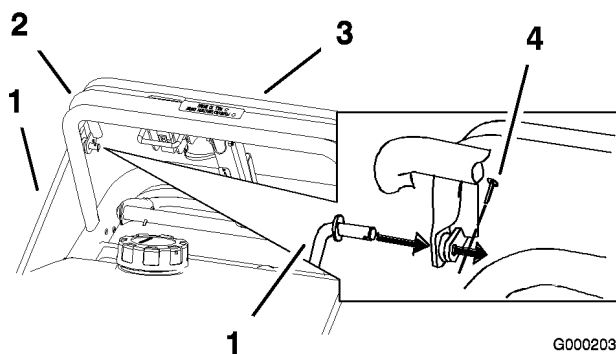

Figure 10
1. Install the control rods into the upper control bar and the blade control bail. Secure the control rods with 2 cotter pins (Figure 10).